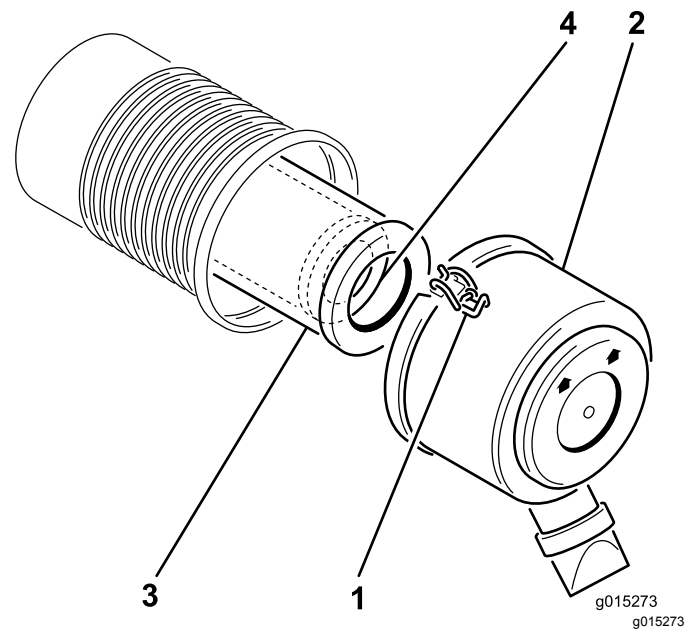

Figure 14
2. Release latches securing air-cleaner cover to air-cleaner body. Separate the cover from the body (Figure 14).
4. Gently slide the primary filter out of the air-cleaner housing (Figure 14).
- If the safety filter is being replaced, carefully slide it into the filter body (Figure 14).
- Carefully slide the primary filter over the safety filter (Figure 14).
- Install the air-cleaner cover with the side indicated as up facing upward and secure the latches (Figure 14).